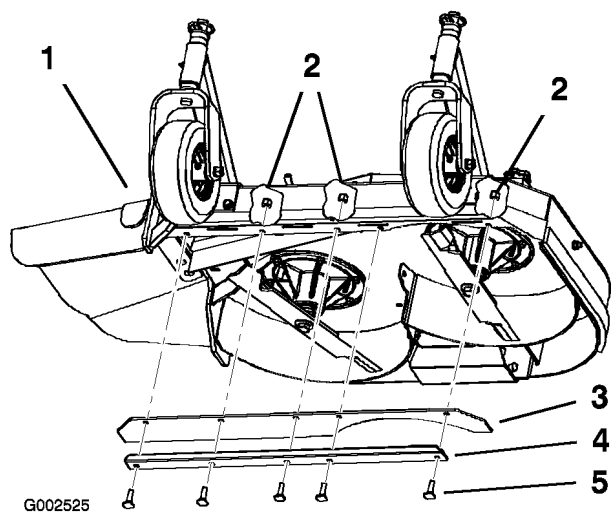

Figure 1
Note: Install bolts as shown in Figure 1.
1. Install rubber baffle and the baffle stiffener with 5 bolts (5/16 x 1 inch) and 5 locknuts (5/16 inch) (Figure 1).